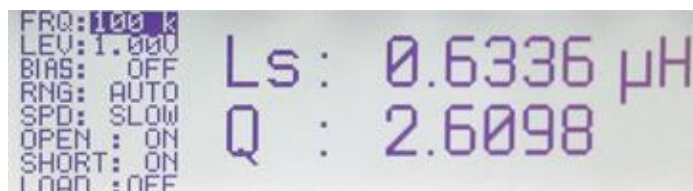
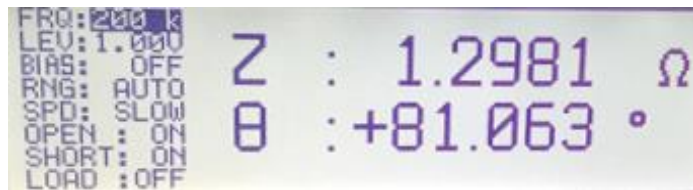

Fig. 2-4: Display of inductance and quality for a coil at 100 kHz.
Fig. 2-5: Display of impedance and phase angle for a coil.
- The correct measurement function is set automatically in Auto mode, which is enabled by default (see Fig. 2-8 and Section 2.1.2.1). In this case, L-Q is displayed, i.e. inductance L and quality Q (Fig. 2-4). Other parameters such as impedance and phase angle are displayed by pressing a key and selecting the appropriate measurement functions as described in the manual. In the case of an ideal coil, the phase angle is $+90^\circ$. Fig. 2-5 shows the measurement of an actual lossy coil with a phase angle of $+81^\circ$.